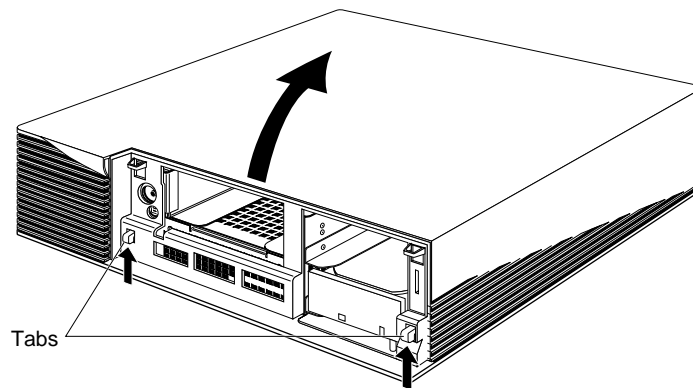

Figure 2-5 Removing the top cover from the Indigo² chassis
- Press up on the tabs on each side of the drive openings, as shown in Figure 2-5.